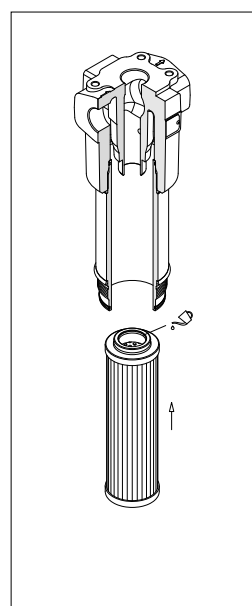

fig. 29
- (Fig. 29) Lubricate with the operating fluid the filter element O-ring, then fit the filter element on the tap